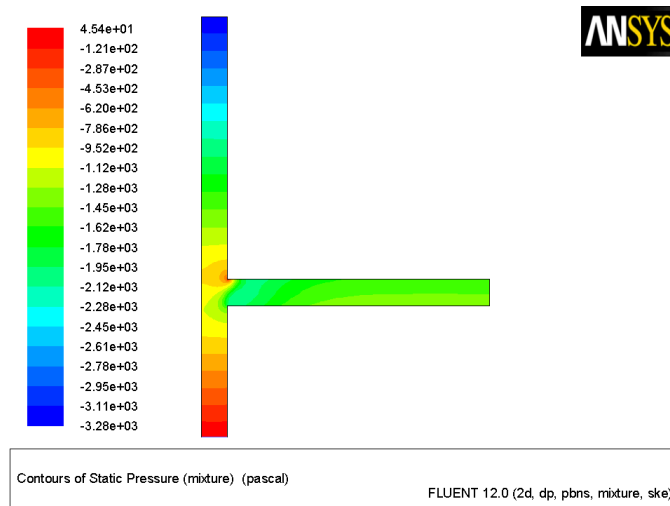

Figure 20.3: Contours of Static Pressure
1. Display the static pressure field in the tee (Figure 20.3).